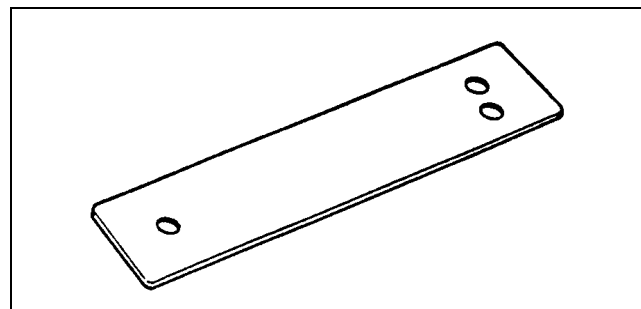

Figure 23
- TOR80110DZ 2mm Shim Cutoff Gauge (Fig. 23)